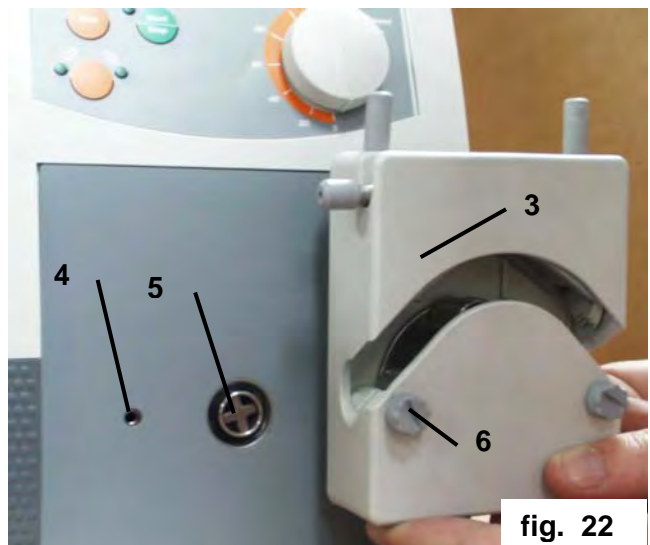

fig. 22
2.1. SP quick (figs. 22,23)
- Press SP quick pump head (3) against PD.... pump drive front panel so that thread (4) and coupling (5) are in line with threaded bolt and coupling on pump head.